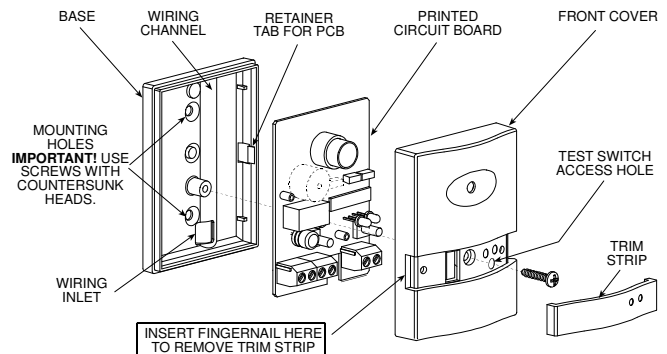

Figure 2. GlassTech - Exploded View
3.2 Disassembling the Detector (Fig. 2)